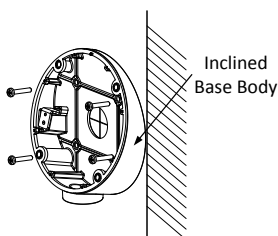

Figure 2-8 Fix the Inclined Base Body
5. Install the inclined base's body on the ceiling/wall with four PA4 \times 25 screws, as shown in Figure 2-8.